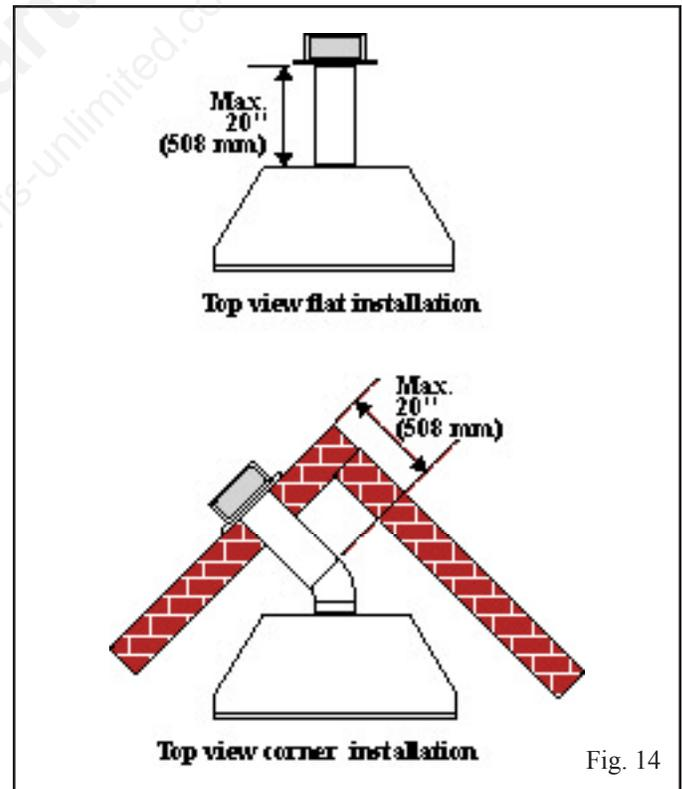

Fig. 14
- The maximum horizontal distance between the rear of the appliance (or the end of the transition elbow in a corner application) and the outside face of the rear wall is 20" (508 mm), Fig. 14.
Measure the horizontal length requirement for the venting including a 2" (50 mm) overlap, i.e. from the elbow to the outside wall face plus 2" (50 mm) (or the distance required if installing a second 90° elbow). (Fig. 14).